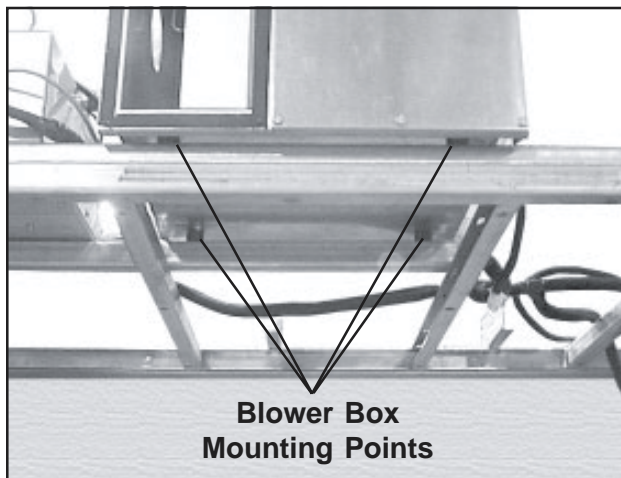

Figure 96. Blower Box on Base Frame (intake box shown - exhaust similar)
11. With a 7/16 in. wrench, unscrew the four screws (and washers) from the mounting points under the blower box (Figure 96) and remove the blower box from the cubicle.